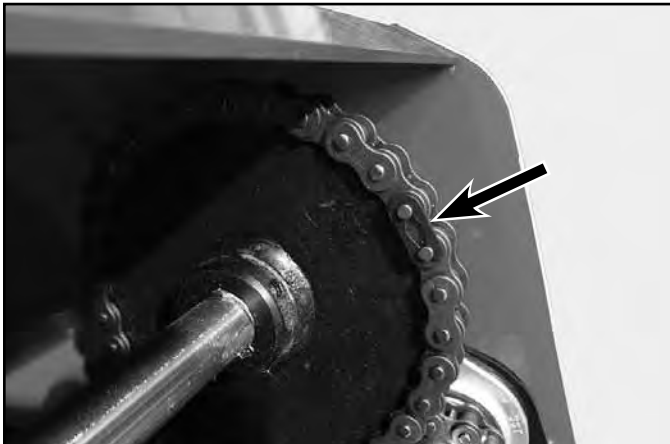

Fig. 098
8. Remove and retain the connecting link from the front axle chain sprocket. Remove chain (Fig. 098).